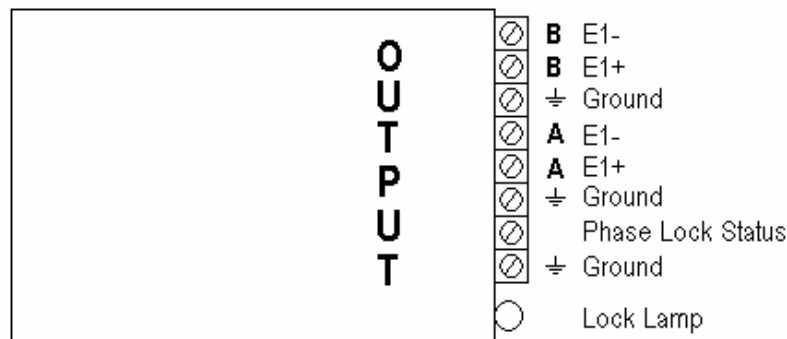

Figure 6-2: Framed All Ones Connector
Option 66 units are equipped with a terminal block connector to provide the two E1 Framed All Ones outputs. The terminal block connector also includes a phase lock status indicator. This output shall be a TTL level high (1) whenever the VersaTap is phase locked to the applied CC reference and a TTL low (0) when not locked. Refer to Figure 6-2 for the output connector pin out.